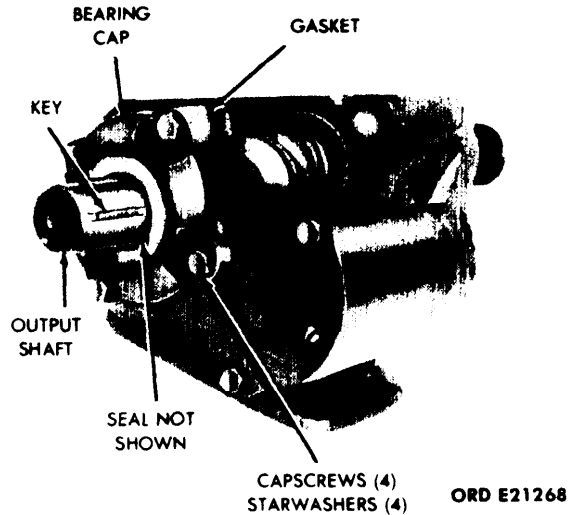

Figure 5-8. Removal of Output Shaft Front Bearing Cap and Companion Flange Key.
(1) Remove the output shaft key from the output shaft. (See fig. 5-8.)
- g. Output shaft front bearing cap and companion flange key. (See fig. 5-8.)